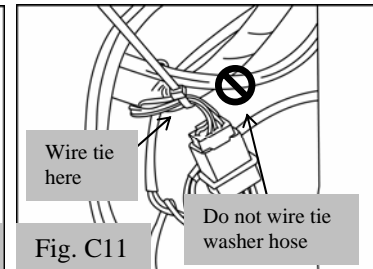

Fig. C11
i. Note - For RH taillight do not wire tie the washer hose. (Fig. C11)